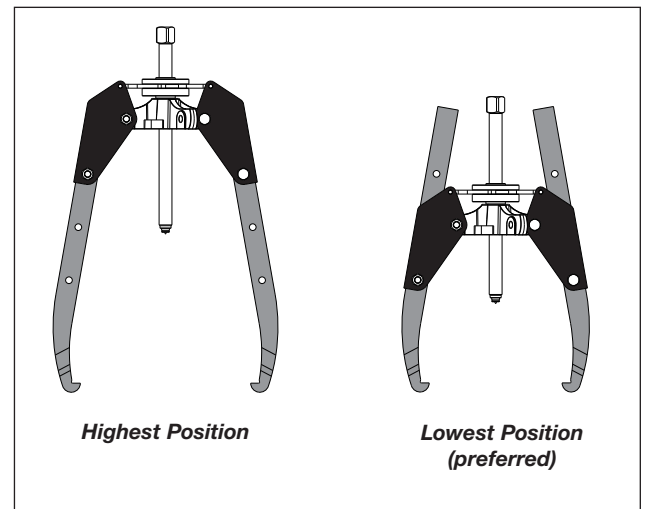

Figure 5, Jaw Mounting Positions (typical)
- Install each jaw using the lowest mounting holes allowable for the application being performed. This will reduce the amount of jaw and adjusting rod deformation in the event of great force. See Figure 5.